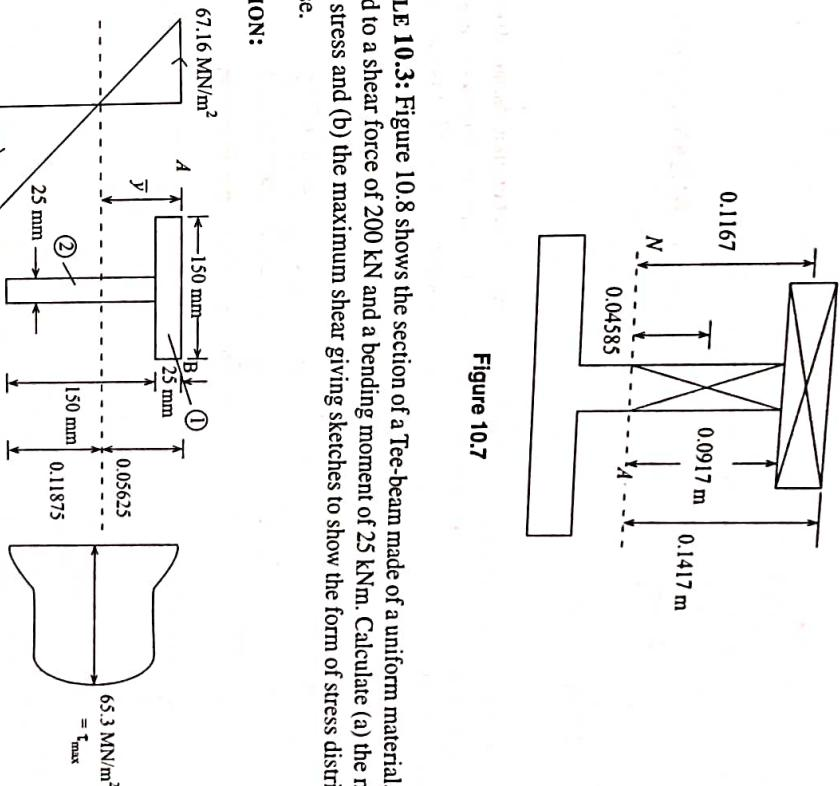

Figure 10.8
**EXAMPLE 10.3:** Figure 10.8 shows the section of a Tee-beam made of a uniform material, which is subjected to a shear force of 200 kN and a bending moment of 25 kNm. Calculate (a) the maximum bending stress and (b) the maximum shear giving sketches to show the form of stress distribution in each case.